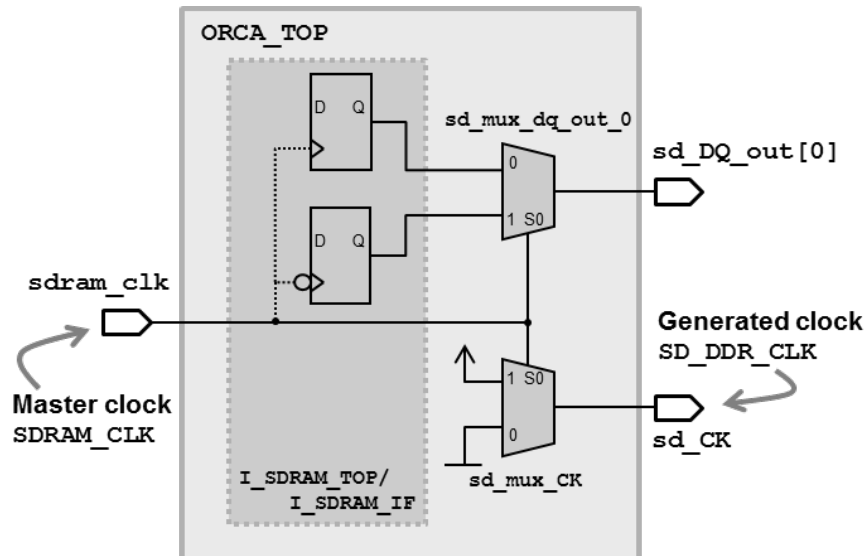

Figure 1. SDRAM interface
Figure 1 shows the SDRAM interface. The clock `SDRAM_CLK` is connected directly to the select pins of muxes, which in turn will drive the output ports of the `ORCA_TOP` block. The *dummy* mux driving `sd_CK` is required because of the tight timing requirement of the DDR SDRAM interface, which produces data at its output data ports on both the rising and the falling clock edges. This design requires that the clock skew from `SDRAM_CLK` to `sd_DQ_out` and `sd_CK` be optimized. By default, select (`S0`) pins are marked as *implicit ignore pins*. To have *CTS* balance the skew you need to redefine these select pins as *sink pins*.
1. In the *view* window that should still be open (see the last step of the previous *Task*), notice that just above and below the `sd_CK` line, the MUX *select* pins described in *Figure 1*, `I_SDRAM_TOP/I_SDRAM_IF/sd_mux_CK*/S0`, are, in fact, also *implicit ignore pins*.